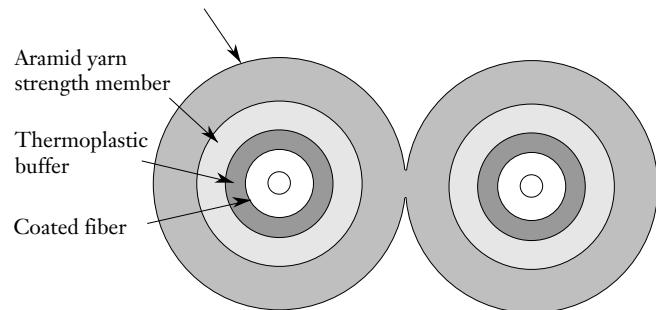

Figure 1
**1.2** Corning Cable Systems 2-fiber Zipcord is comprised of two subunits fused together to make a cable that is both easy to handle and install. This procedure applies to both riser-rated and plenum-rated Zipcord cables (Figure 1).